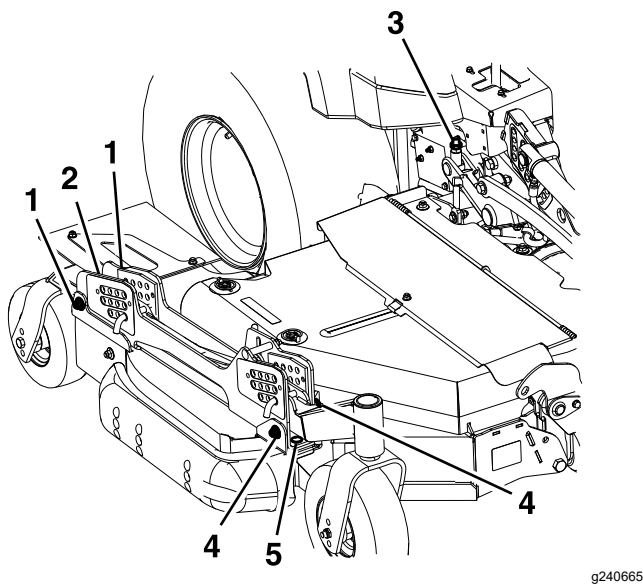

Figure 81
3. The left and right wing decks have blade height adjustments with front and rear adjustment points. To adjust the wing-blade height, first loosen the front and rear height-of-cut hanger mounting nuts. There are 4 locations (2 on each side of the channel) as shown in Figure 81.
- If the deck is too low, tighten the front height-adjustment bolt (Figure 81) by rotating the bottom nut clockwise.
- If the deck is too high, loosen the front height-adjustment bolt (Figure 81) by rotating the bottom nut counterclockwise. Fine-tune the rear adjusters as required.
Adjust the rear wheel height (Figure 81) so that the rear wheel lightly touches the ground with minimal pressure.
4. Measure the back of the wing blades. If either has less than 1.5 mm (1/16 inch) rake, raise the rear of the deck by tightening the left and right rear adjustments (Figure 81) until all 4 blades have a minimum of 1.5 mm (1/16 inch) rake. Adjust the rear wing wheels so that they lightly touch the ground with minimal pressure. Tighten all 4 rear hanger-mount locations (Figure 81).